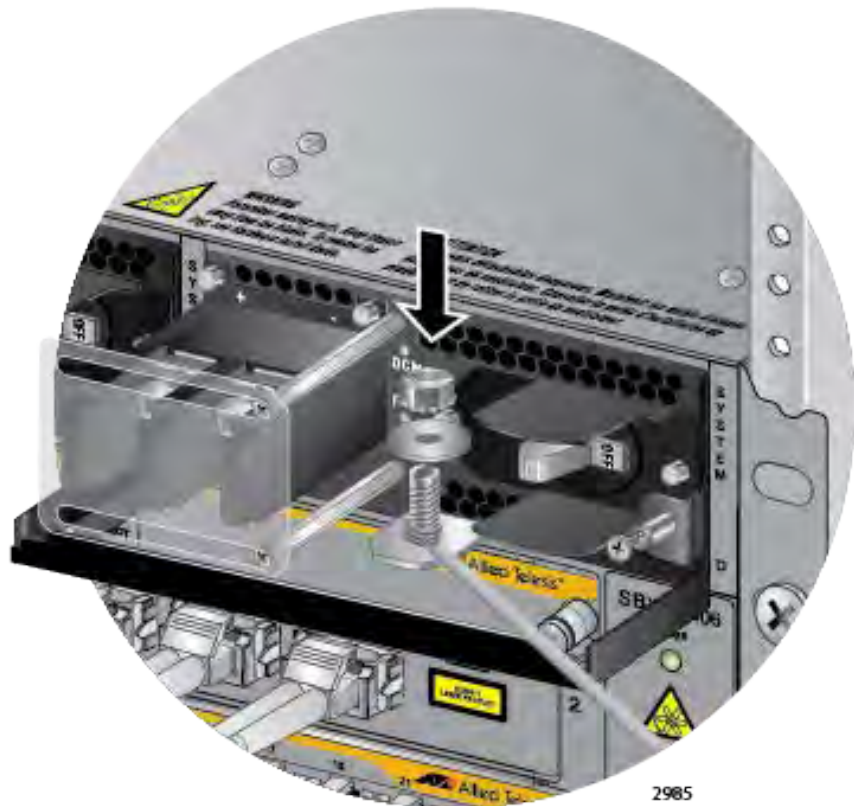

Figure 133. Securing the Bare Grounding Wire to the Grounding Post
4. Secure the wire with the nut and washer removed in step 2, and an 8 mm wrench, as shown in Figure 133.